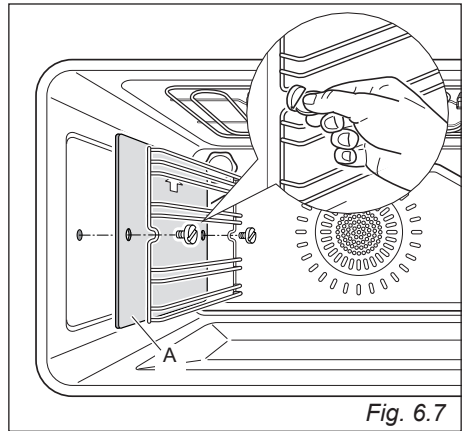

Fig. 6.7
- Assemble the wire racks to the oven walls using the 2 screws (fig. 6.7).
**In the models with catalytic panels supplied:** interpose the catalytic panels "A" with the arrow up (fig. 6.7).
- Fit the side runner frames into the holes on the side walls inside the oven. (fig. 6.7).